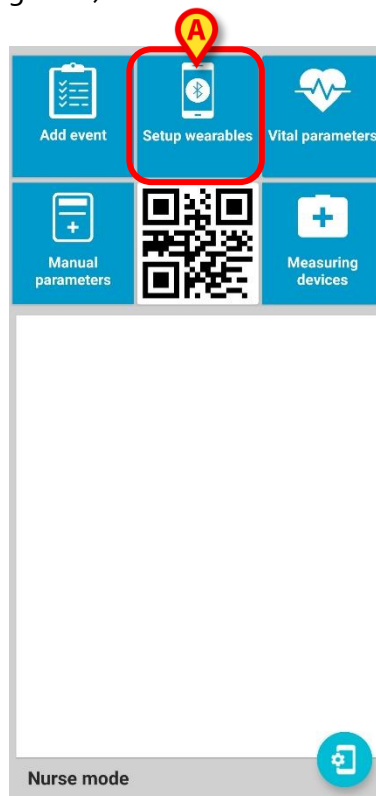

Fig 22
- Open the Digistat Gateway application in "Nurse mode" on the mobile device. Tap the **Setup Wearable** button (Fig 22 A).